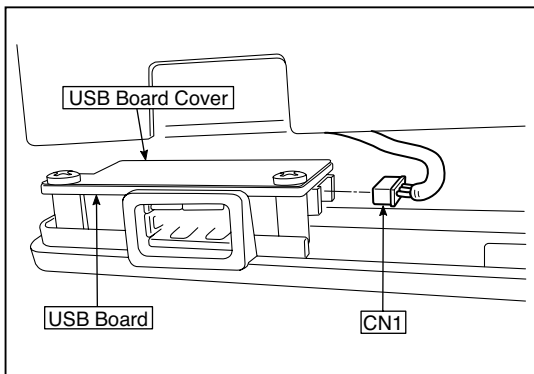

Fig.7
- 2.Disconnect the connector connected to the USB Board shown in the figure 7.